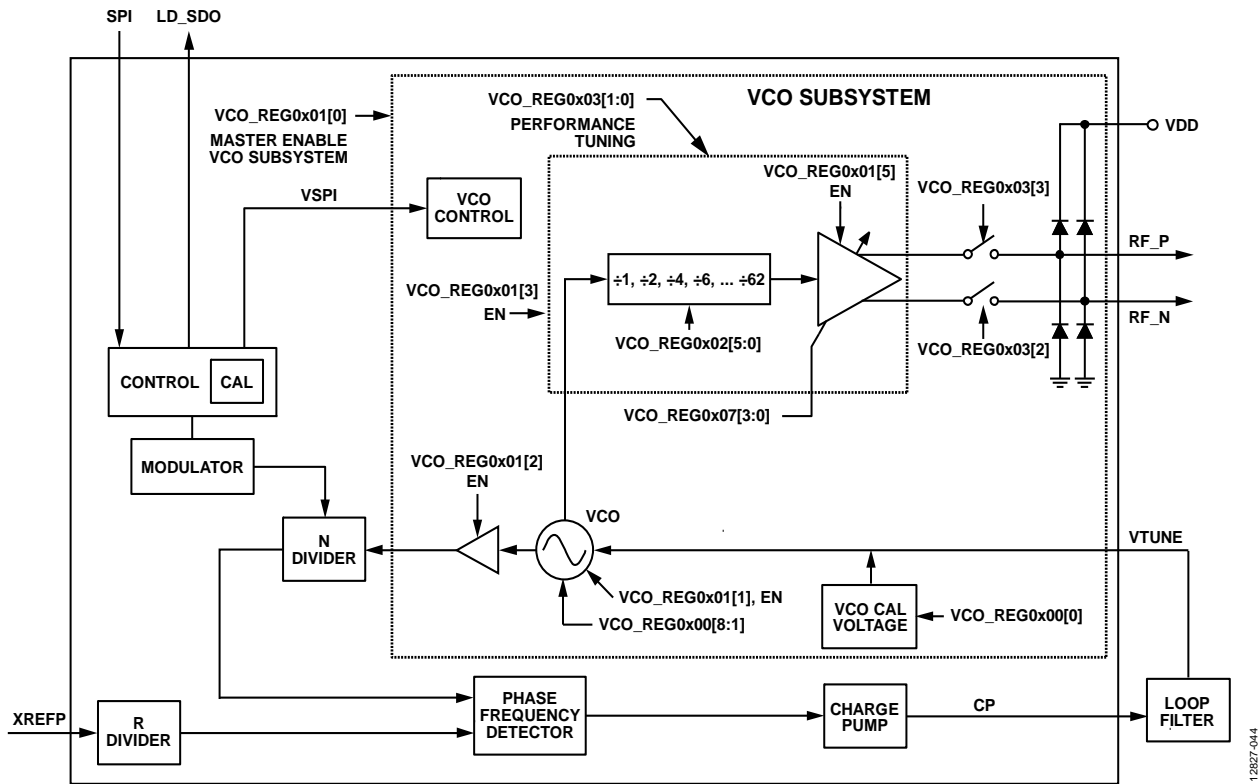

Figure 39. PLL and VCO Subsystems
All modes are VCO register programmable, as shown in Figure 39. One loop filter design can be used for the entire frequency of operation of the HMC832.
- The VCO SPI register, Register 0x05. This is required only for manual control of VCO if Register 0x0A[11] = 1, autocalibration is disabled, or to change the VCO output divider value (VCO_REG 0x02), see Figure 39 for more information.
Also note that the VCO subsystem registers are not directly accessible. They are written to the VCO subsystem via PLL Register 0x05. See Figure 39 and the VCO Serial Port Interface (VSPI) section for more information about the VCO subsystem SPI.